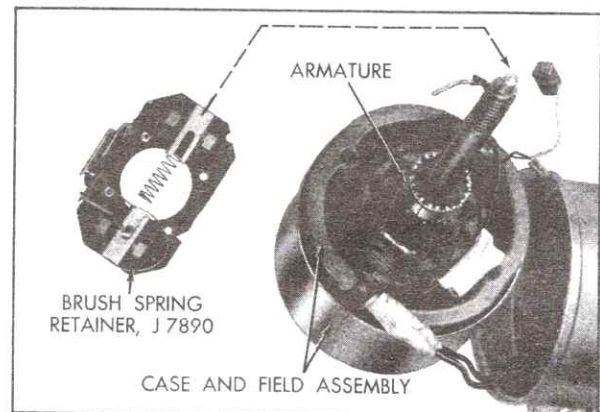

Fig. 12-29 Installing Armature and Brush Plate
5. Assemble armature in the case and field assembly, Fig. 12-29.
6. Position the partially assembled brush plate, Fig. 12-29, over the armature shaft far enough to allow re-assembly of the remaining brush in